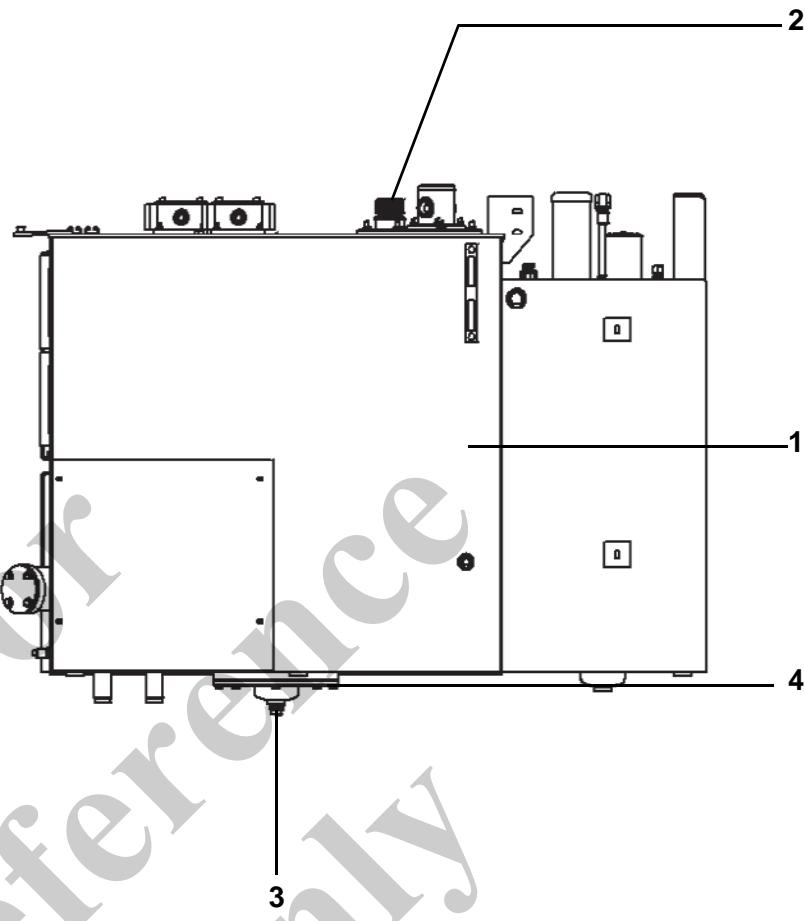

Fig. 17 Hydraulic oil tank
| 7 | Unscrew the drain plug (3) in Fig. 17 on the underside of the tank and collect the used oil in the container. |
| 8 | Unscrew the 8 socket head bolts (4) in Fig. 17 and remove the cover. |
| 9 | Clean the cover, drain plug and the inside of the hydraulic tank (1) in Fig. 17. |
| 10 | Secure the cover and seal using the 4 socket head bolts (4) in Fig. 17. |
| 11 | Screw in the drain plug (3) in Fig. 17 and seal. |
| 12 | Unscrew the cap (2) in Fig. 17 of the oil filler neck. |